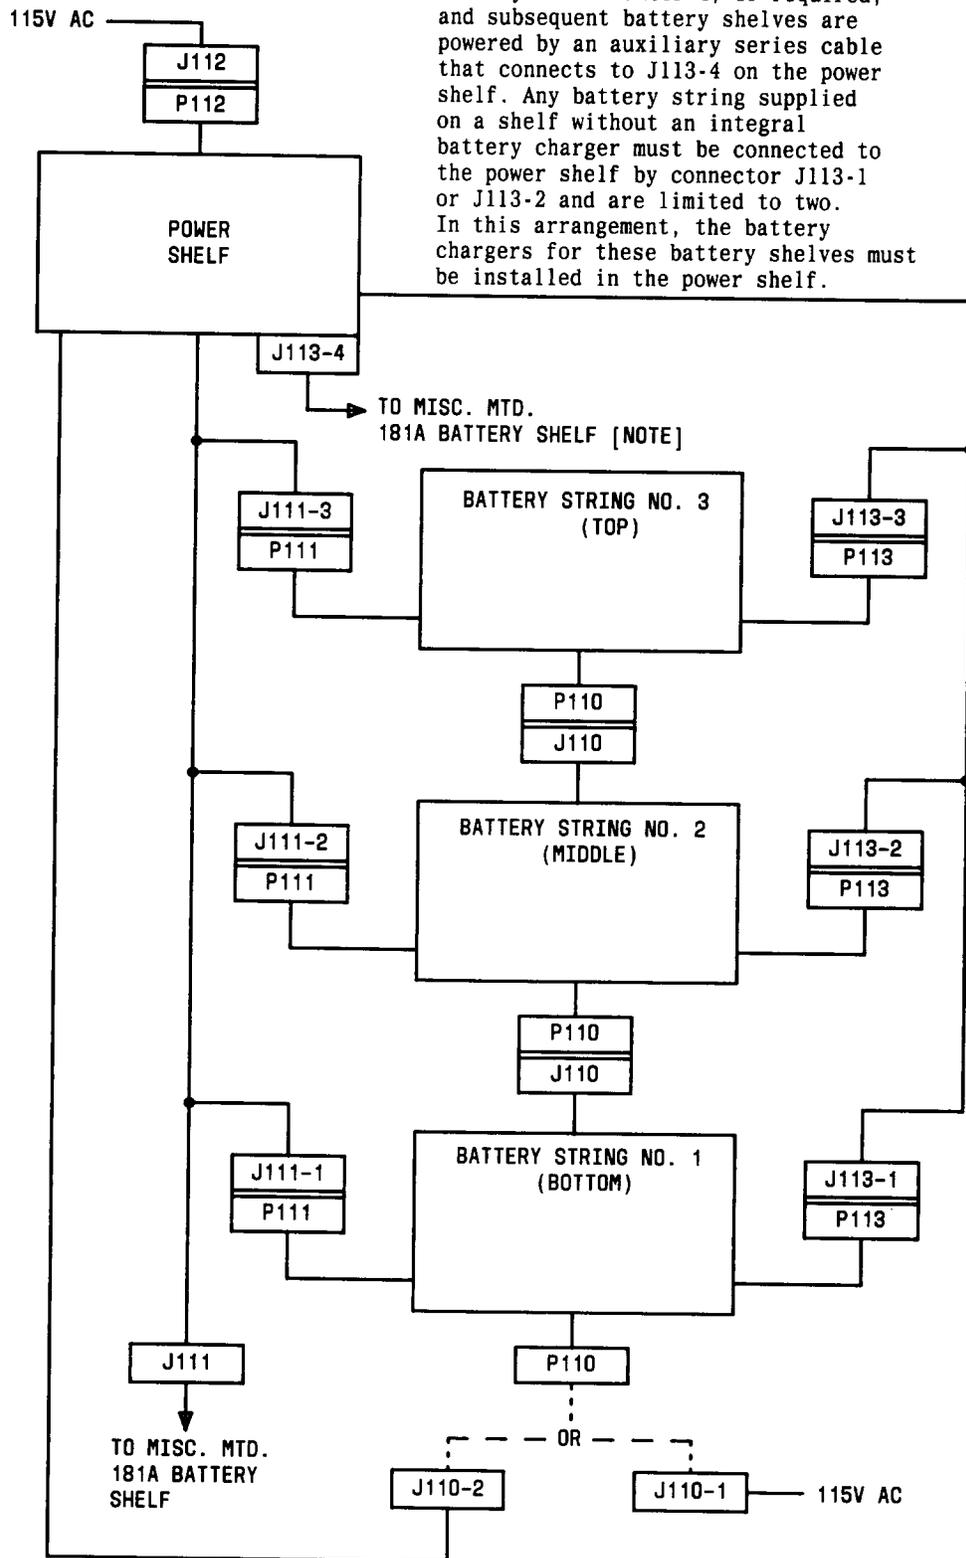

Fig. 2—Power and Battery Shelf Connectors
13. Verify that power shelf connectors are not connected to battery shelf lead connectors for battery shelves not equipped (Figure 2).